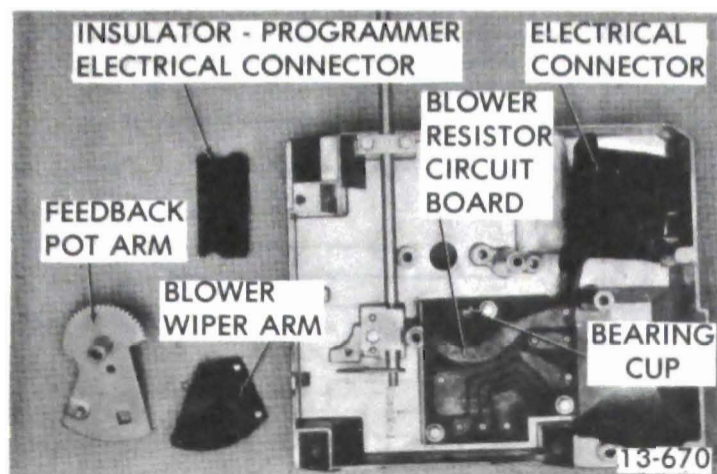

Figure 13-150 Blower Wiper Arm and Feedback Pot Arm - Removed
1. Put blower resistor wiper arm and feedback pot arm back together, making certain that the two (2) ball bearings are located properly in the bearing cups on the wiper arm. See Figure 13-150.